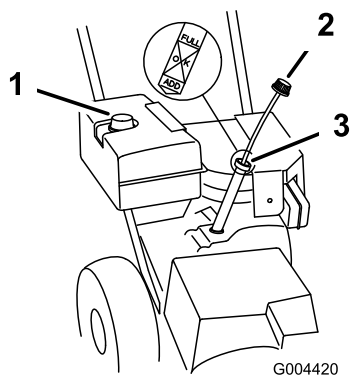

Figure 12
- Clean around the dipstick (Figure 12).
1. Clean around the fuel tank cap (Figure 12).